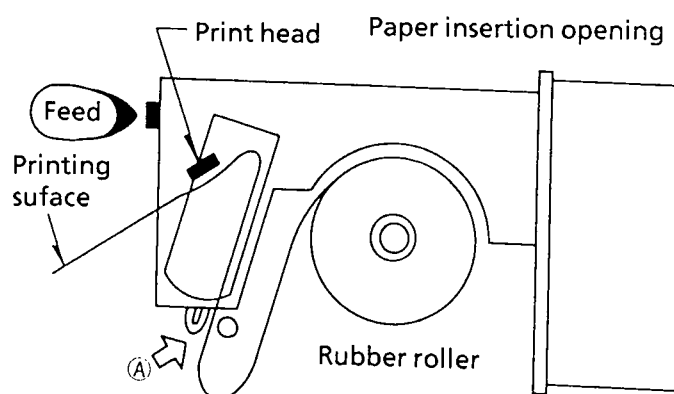

Figure 4.2
- (3) Gently push the paper face down into insertion opening A in Figure 4.2. Keep pressing the feed switch until the paper comes out from the print head.
- (4) When the paper from the print head has come out from the paper cutter, replace the front panel of the unit.